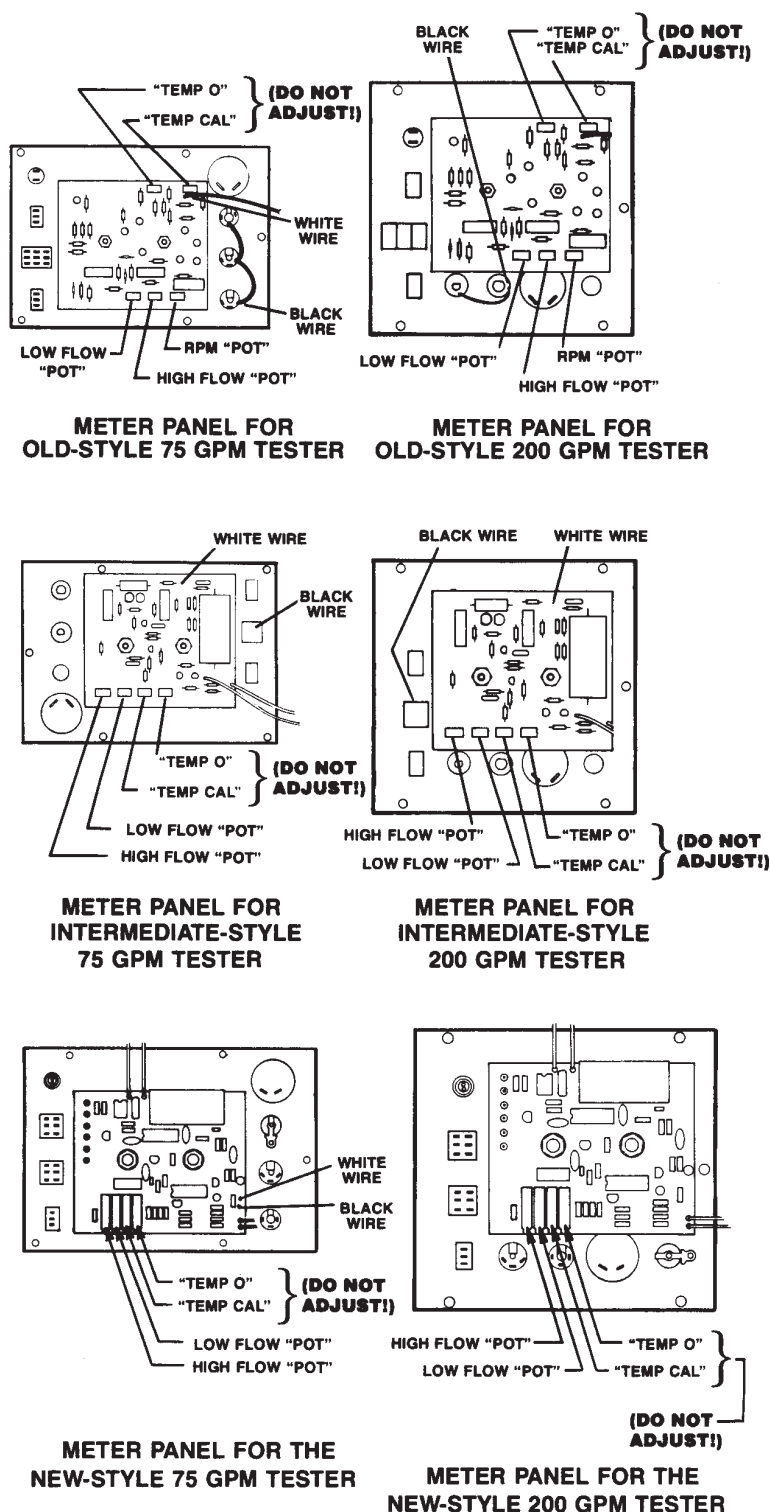

FIGURE 2. VARIOUS METER PANEL BOARDS
NOTE: If either HIGH or LOW FLOW setting requires recalibration, it is accomplished by adjusting the "pots" located on the electronic board. (See Figure 2.)
6. Adjust the meter needle down scale several increments by turning the LOW FLOW "pot" counter clockwise. Adjust the "pot" until the LOW FLOW GPM value is precisely indicated. Tap the meter face lightly with your finger to be sure the needle does not reposition itself. Readjust "pot" if necessary. Refer to Figure 2 for the location of the "pots" on your particular meter panel board.
5. Locate the RPM "pot" shown on the old style meter panel board in Figure 2 or, after locating the pot adjusting screw, fully turn it counterclockwise.